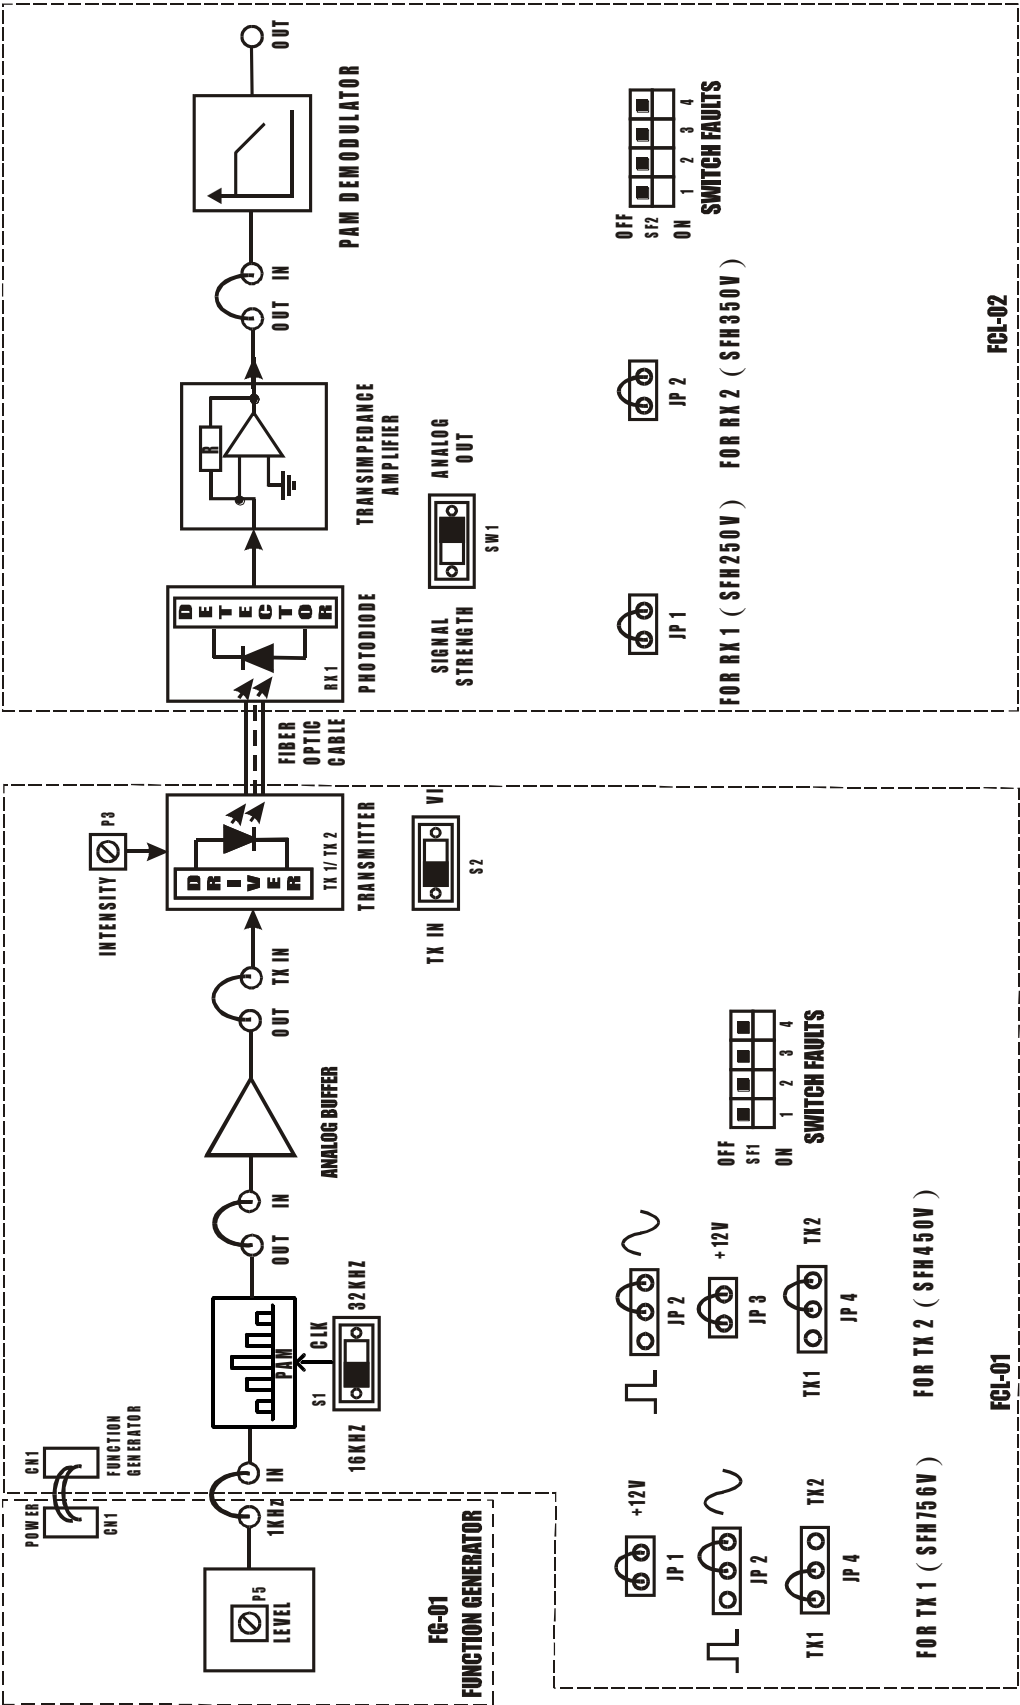

FIG. 9.1 BLOCK DIAGRAM FOR PULSE AMPLITUDE MODULATION
- Refer to fig 9.1 and make the following connections.
- Keep the jumpers **JP1, JP2, JP3 & JP4** on FCL-01 as shown in fig.9.1.
- Keep the jumpers **JP1 & JP2** on FCL-02 as shown in fig.9.1.